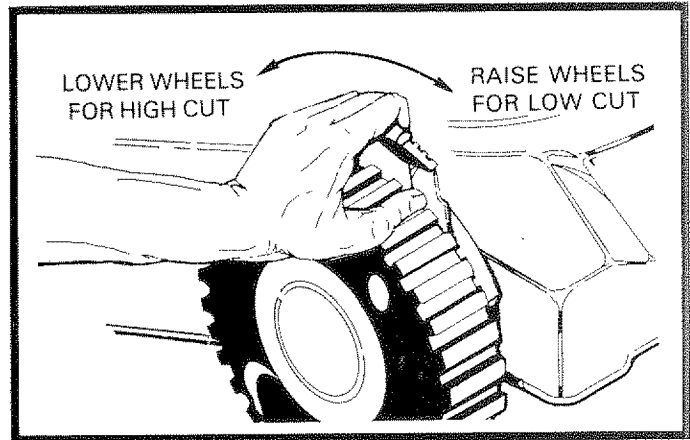

FIG. 8
- To change cutting height, squeeze Adjuster Lever toward Wheel. Move Wheel up or down to suit your requirements. Be sure all Wheels are in the same setting (See Fig. 8).